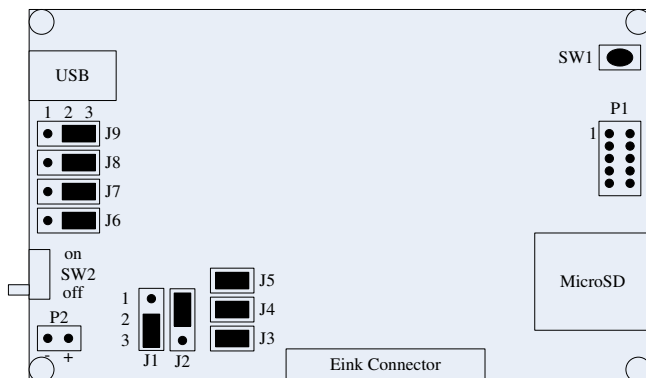

Figure 41. Correct Jumper Positions for External Supply
- Figure 41 shows correct jumper positions for powering development board with external portable supply for data logger function. SW2 is also used to control the on/off for external supply.
- External 3V supply, this supply is recommended to use when realizing portable data logger function. High capacity AAA batteries or lithium thin cell as shown in Figure 1 is recommended to support continuous heavy current drawing when saving data in MicroSD. When using external supply, please make sure the jumper J1 is at 2-3 position and J2 is at 1-2 position as shown in Figure 41 (There are notes on PCB board). The on/off of external supply can be controlled by SW2.